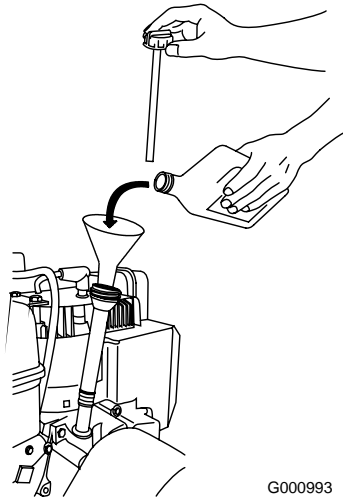

Figure 42
2. Remove the dipstick and check the oil level (Figure 42). If the oil level is below the Add mark on the dipstick, add oil. Refer to Filling the Engine with Oil.